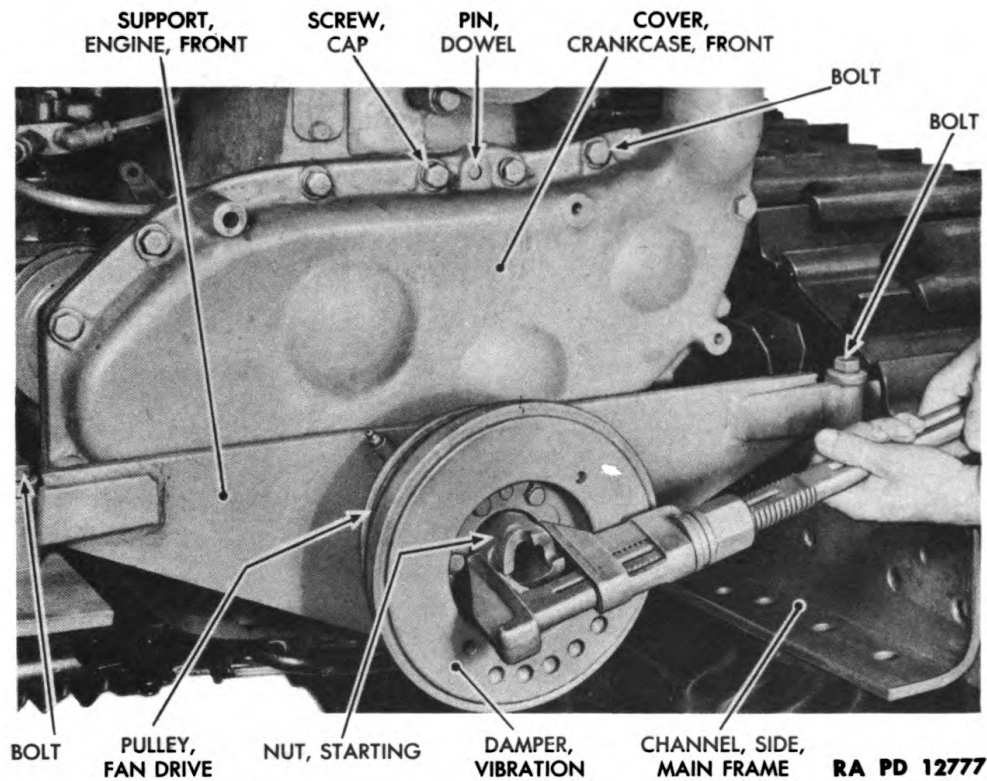

Figure 126—Starting Nut Removal
(7) REMOVE FAN DRIVE PULLEY WITH VIBRATION DAMPER ATTACHED (fig. 126).
(8) REMOVE FRONT ENGINE SUPPORT (fig. 126).
(9) REMOVE CRANKCASE FRONT COVER (fig. 126).